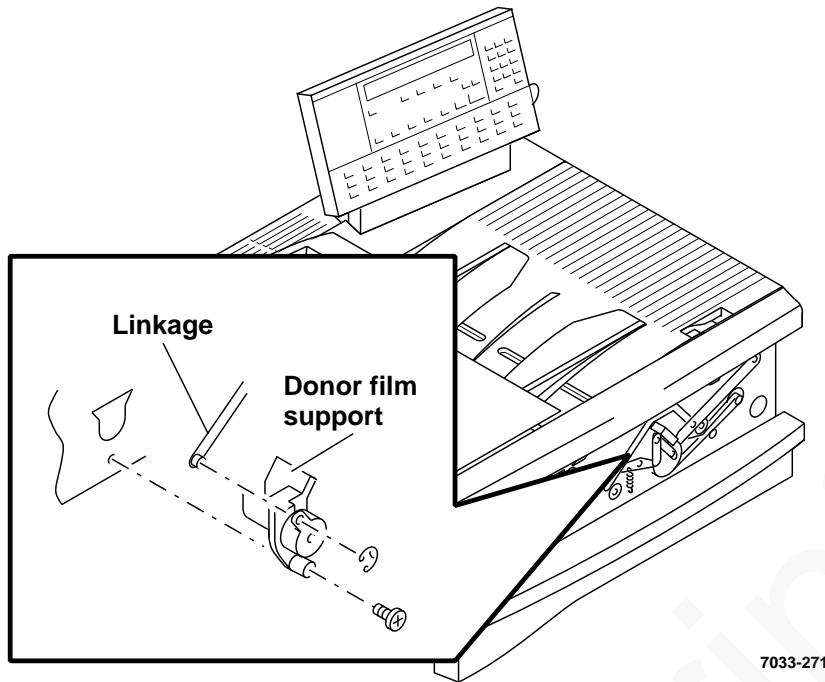

Figure 22. Donor film support assembly removal
- a. Remove E-ring securing linkage #2 to donor film support being removed (Figure 22).